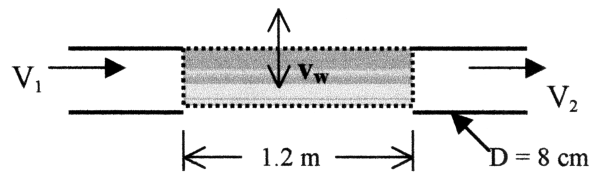

Fig. P3.10
**3.10** Water flowing through an 8-cm-diameter pipe enters a porous section, as in Fig. P3.10, which allows a uniform radial velocity  $v_w$  through the wall surfaces for a distance of 1.2 m. If the entrance average velocity  $V_1$  is 12 m/s, find the exit velocity  $V_2$  if (a)  $v_w = 15$  cm/s out of the pipe walls; (b)  $v_w = 10$  cm/s into the pipe. (c) What value of  $v_w$  will make  $V_2 = 9$  m/s?